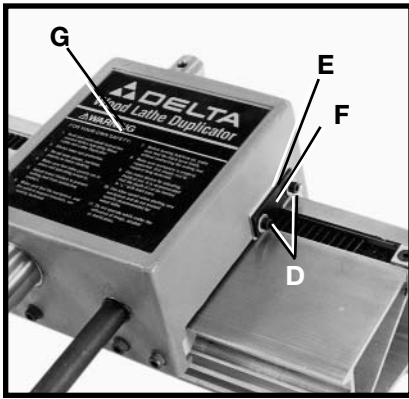

Fig. 16
4. Remove the two screws and washers (D) Fig. 16, wiper, (E) and retainer plate (F) from each side of the carriage (G).